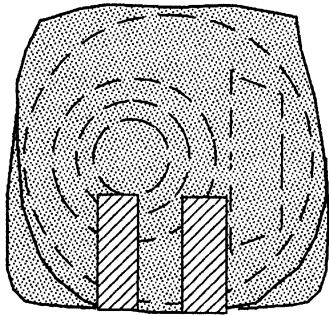

Figure 13.
1. Consistent assembly and wrapping techniques go hand in hand. That is, sets assembled exactly alike should then be positioned and wrapped exactly alike. That way some external landmark can signal the loader for proper positioning in the sterilizer. One way to do this is to say that the taped side indicates the “standing edge” (Figure 13).